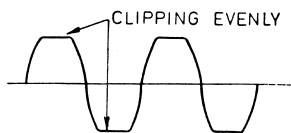

FIG 7—CORRECTLY MATCHED OUTPUT TRANSISTORS.
4. For minimum distortion the output transistors should be matched for push-pull operation. This is achieved when on high output levels the waveform is evenly clipped as in Fig. 7.